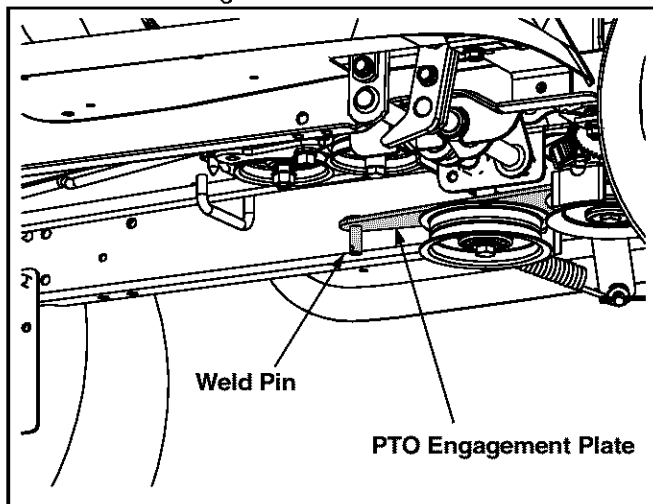

Figure 7
- Locate the PTO engagement plate beneath your tractor. See Figure 7.
- Note the location of the weld pin on the rear portion of the PTO engagement plate. This pin is where the deck brake cable attaches, when operating the tractor with the cutting deck mounted. See Figure 7.